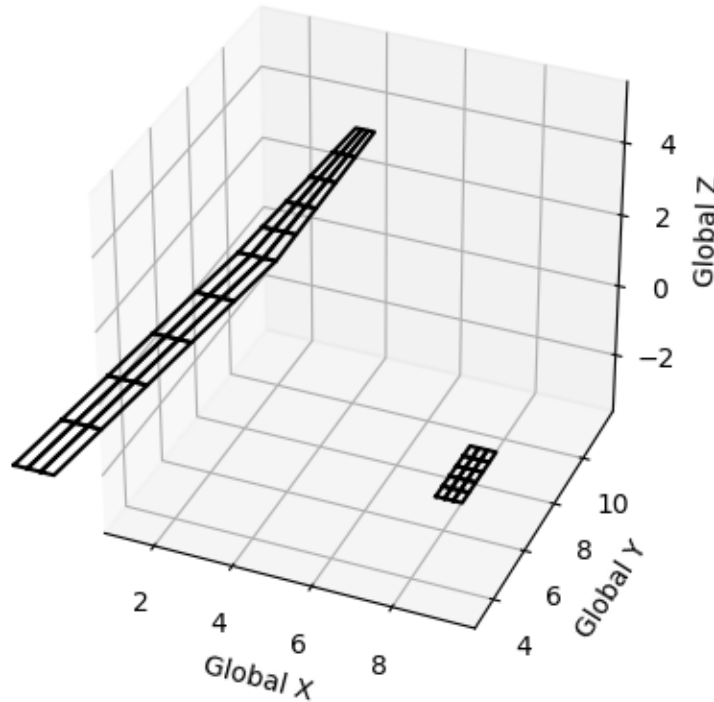

Figure 2: Right half of wing-tail configuration of sample input file.
- The sample input file models the wing and h-tail configuration of Fig. 2. Note that only the right wing halves are defined (symmetry flag set)
As indicated in Fig. 2, the coordinates system is positive x in wind direction, positive y along right wing and positive z up.
Next, a sample input file with explanations. It is the file that was used to model the configuration in Fig. 2.